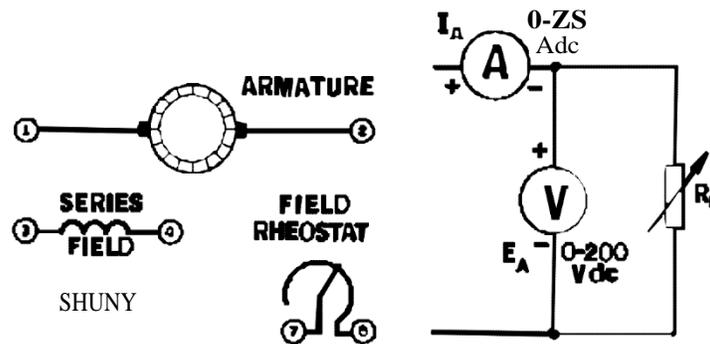

FIGURE 12.16
b) Complete the drawing shown in Figure 12.16 showing your proposed circuit change.